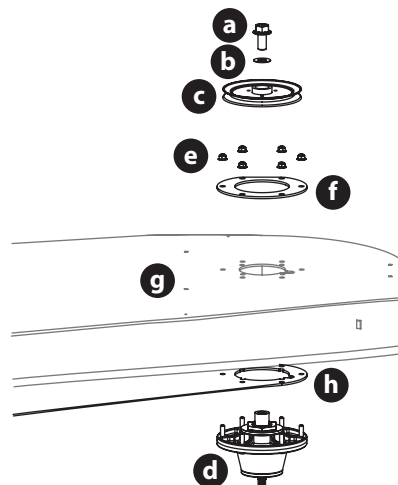
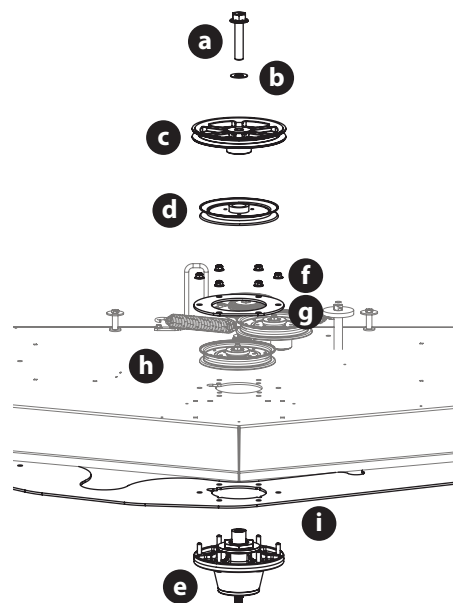

Figure 66
Figure 67
6. Remove the hex flange bolts (a) and flat washers (b) securing the left and right spindle pulleys (c) to the spindle assembly (d) (Figure 66).
7. Remove the 6 flange lock nuts (e) securing the left and right spindle assemblies (d) and the support plates (f) to the deck shell (g) (Figure 66).
NOTE: The deck support plate (h) does not need to be removed unless all three spindles are being replaced (Figure 66).
8. Remove the hex flange bolt (a) and flat washer (b) securing the drive pulley (c) and center spindle pulley (d) to the spindle assembly (e) (Figure 67).
9. Remove the 6 flange lock nuts (f) securing the center spindle pulley (d), spindle assembly (e) and the support plates (g) to the deck shell (h) (Figure 67).
NOTE: The deck support plate (i) does not need to be removed unless all three spindles are being replaced (Figure 67).
10. Reverse the process to install the spindle assembly. When installing the new spindle assembly be sure to install the hardware exactly (Figure 66 and Figure 67). Torque the hex flange bolts to 250 ft-lbs (339 N-m) and the flange lock nuts to 21-32 ft-lbs (28-43 N-m).